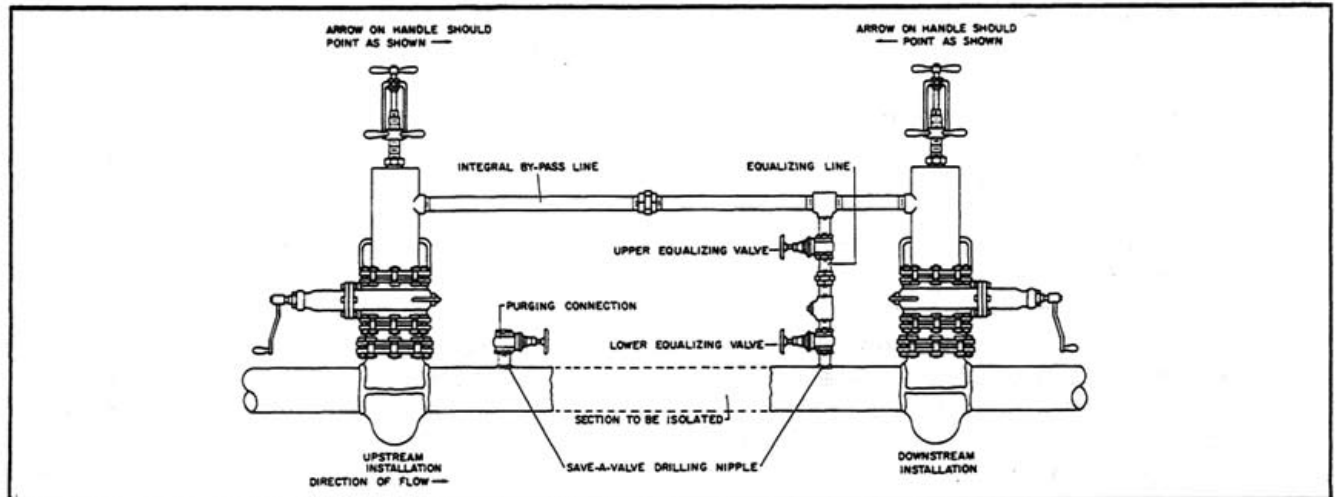

FIGURE 17
2. See **Figure 17** when using two stopping machines to isolate a section of pipe and using an integral by-pass line to maintain service. Also see chart on page 53 for flow data through this type of by-pass. Use a separate by-pass of adequate size if there is any doubt as to whether or not an integral by-pass will provide sufficient and consistent flow and pressure for downstream requirements.
1. If integral by-pass line is being used between two stopping machines, (**Figure 17**) the air is purged from the by-pass line by: